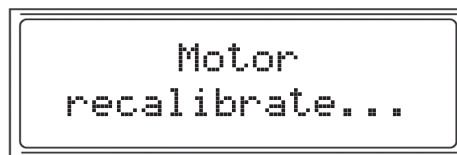
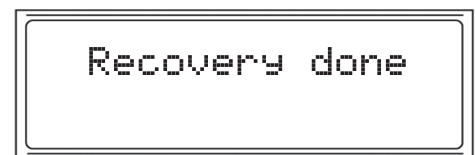

Fig. 33
Fig. 34
- **Motor Recalibrate:** If the normal operation of the motor is interrupted for any reason, “Motor recalibrate...” will be displayed (*Fig. 33*) and the unit will automatically attempt to recover. If recovery is successful, you will see “Recovery done” (*Fig. 34*).